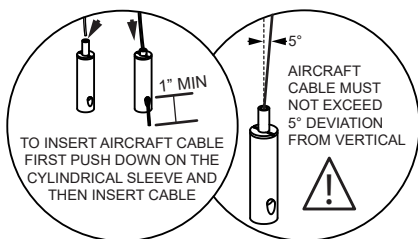

FIG 4
4. LIFT THE FIXTURE AND ATTACH THE LOOSE ENDS OF THE AIRCRAFT CABLES TO THE CABLE GLIDERS (SEE FIG 4)
6. LEVEL OR TILT THE FIXTURE USING THE CABLE GLIDERS. TO RELEASE THE GRIPLOCK ON THE GLIDER, PRESS THE PLUNGER (TIP OF THE GLIDER-FIG 4). IF DESIRED, CUT THE EXCESS CABLE CHECK THE TENSION IN SUSPENSION CABLES